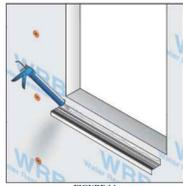

FIGURE 14
7.3.4 If a rigid or semi-rigid sill pan is used, apply a continuous bead of sealant to the outward side of the upturned leg of the pan where it will integrate with the interior side of the window and form an air/water seal (Figure 14).